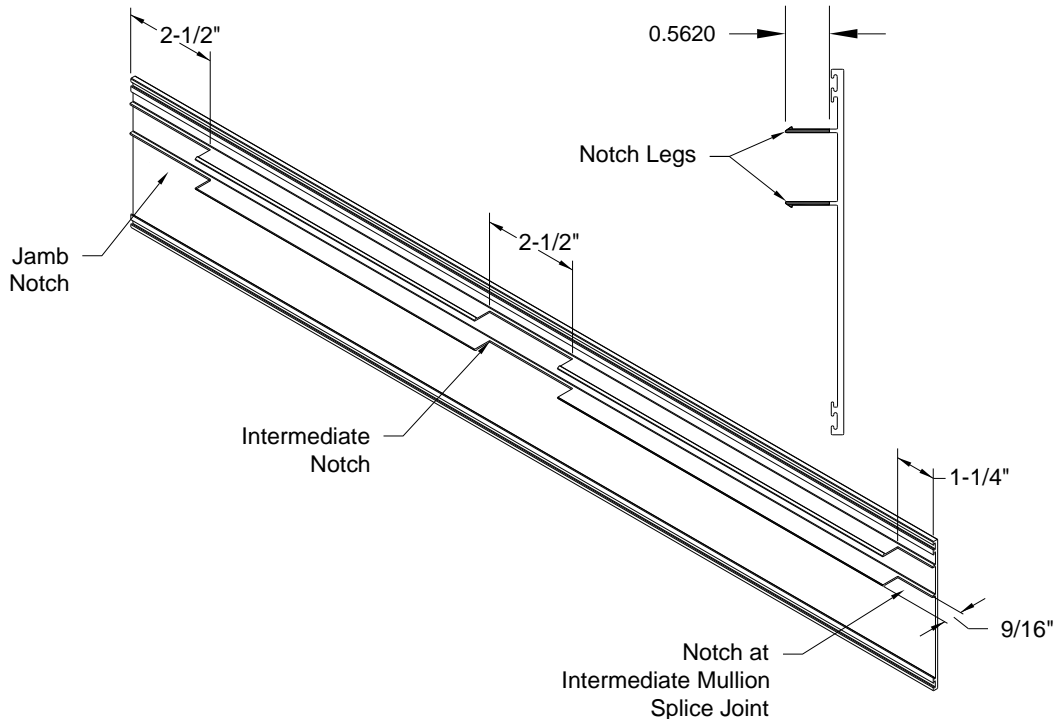
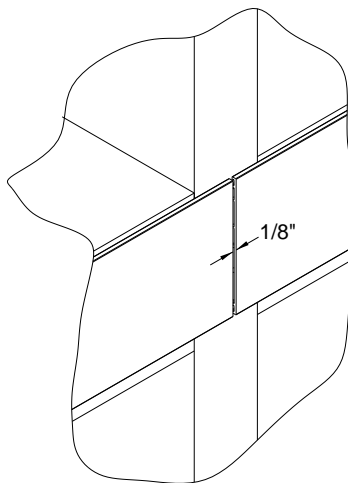

Figure 30: WW-259 Fabrication
Figure 31: WW-259 Intermediate Mullion Splice Joint
- 12.17 When using the optional RL-583 (WW-483) upper horizontal a WW-259 interior snap on cover will be required. The cover must be notched to clear jamb mullions and intermediate mullions. Ends of cover will be notched 2-1/2" at jambs to extend to edge of jamb. If the cover is run across intermediate vertical mullions then a 2-1/2" notch will also be fabricated at these locations. Where the cover needs to be spliced at intermediate mullions the notch will be 1-1/4" long and cover will be cut mullion centerline minus 1/16" to form a 1/8" joint. See *Figure 30* below for fabrication and *Figure 31* for butt joint.